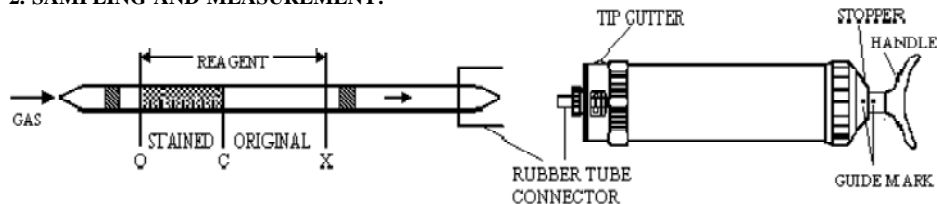

Fig.1
- ① Break both ends of detector tube.
- ② And insert the tube end with red dot sealed on the detector tube into the rubber tube connector as shown in Fig. 1.
- ③ Align the guide marks (red dots) on the shaft and stopper of the pump. Pull the handle at a full stroke and wait for 5 minutes.
- ④ Remove the detector tube from the pump inlet on the completion of sampling. Position boundaries between the reagent and glass grain on the line "O" and "X" of CONCENTRATION CHART and read the concentration with the top "C" of length of stain.
- ⑤ In case of 3pump strokes, push the handle without removing the detector tube from the pump inlet, and air in the pump will be discharged perfectly. Then repeat the step 2 twice again.